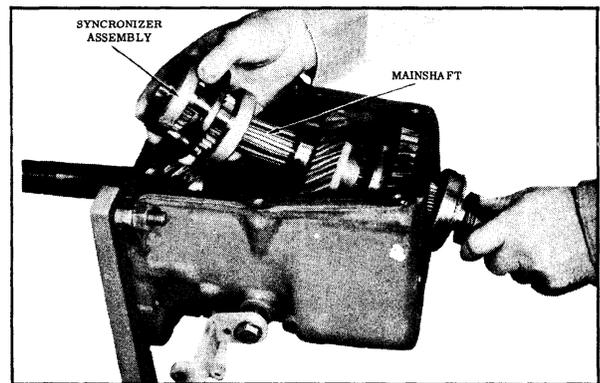

Fig. 11-6 Removing Synchronizing Drum
4. Place transmission in second gear, move main shaft back until rear bearing is clear of case, and disengage shifter yoke from synchronizer. Then lift front end of main shaft enough to remove synchronizer from shaft. (See Fig. 11-6)